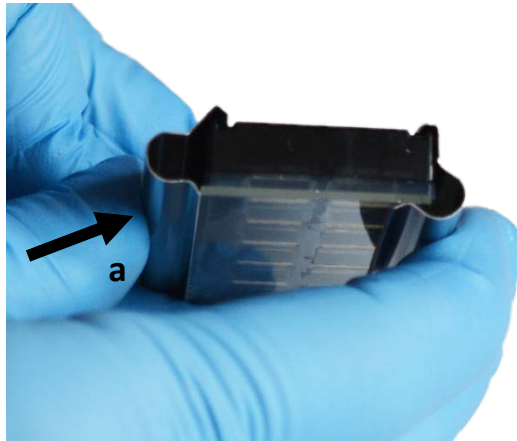

Figure 5
4. Place the hooked edge of the clip onto one of the grooves on the ProPlate module (Figure 4). Grasp the assembly and place the inner edge of the clip over the glass slide (Figure 5).